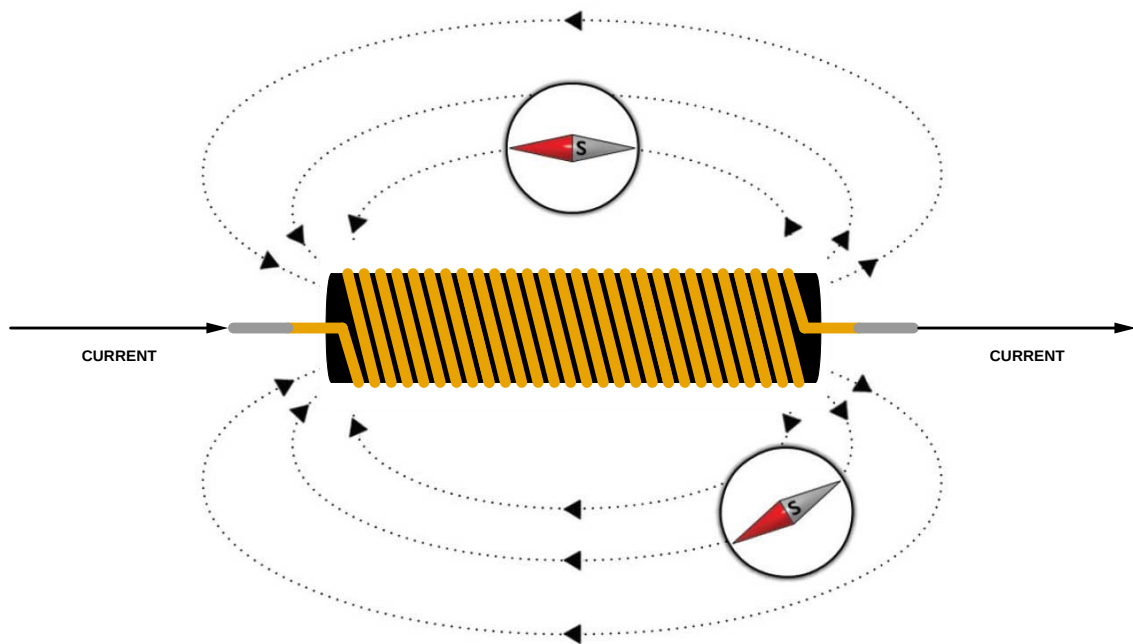

Figure 47: Electromagnetism
4. If the wire is then wound into a coil, as shown in Figure 47, the induced magnetic field forms into the same shape as that for a permanent bar magnet. The field becomes stronger and more useful. For example: If we wind the coil of wire over a soft iron rod, we will have created a simple electromagnet (try it). We can use the electromagnet to pick up small pieces of iron. This effect is called electromagnetism.